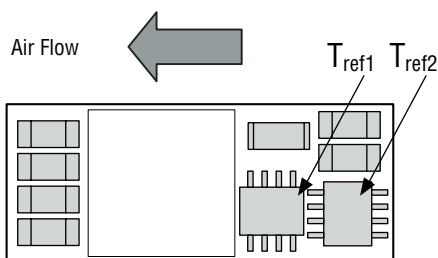

Fig. 30 T_{ref1} Temperature Measurement Location
The thermal reference points are (1) T_{ref1} and T_{ref2} as shown in Figure 30, and (2) T_{ref3} = temperature at controller IC. For reliable operation, none of these T_{ref} points should exceed 115 °C.